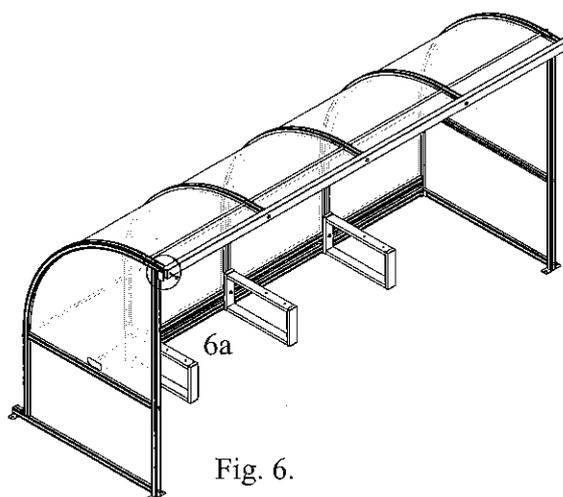
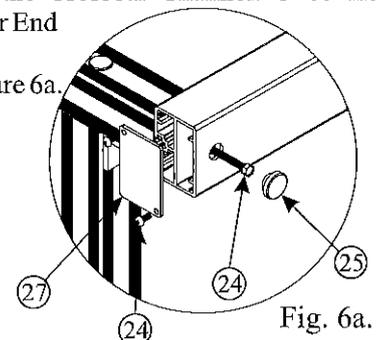

Fig. 6.
Fig. 6a.
7 Offer up the Crossbar (4) to the top of the Bent Supports and PET Sheet, ensuring the overhang of the PET Sheets slots into the channel on the back of the crossbar. Using the 10mm T-Bar Nut Driver (28) provided, fix each end of the Crossbar in place using two 14Gx60mm Self Tapping Screws (23), ensure the screws are fixing into the Bent Support screw port, as per step 2. Continue to fix the remaining Bent Supports to the Crossbar as shown in figure 6 and 6a, again ensuring the PET Sheet slots into the Crossbar Channel. Once the crossbar is secure, attach the Crossbar End Plates (27) using two 0.5"x10G Self Tapping Screws (24) as shown in figure 6a. Finally, cover the access holes in the Crossbar using the 16mm Body Plugs (25).